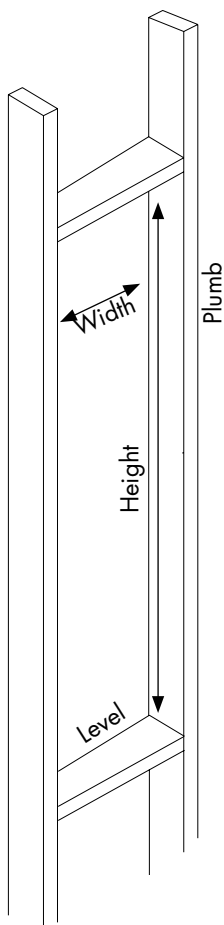

FIG 1
1. Take care in determining correct opening size (Fig 1). Use the following rough opening calculations:
2. **IMPORTANT:** Make sure opening is PLUMB and LEVEL (Fig 1)! A square and plumb installation insures proper operation of door.